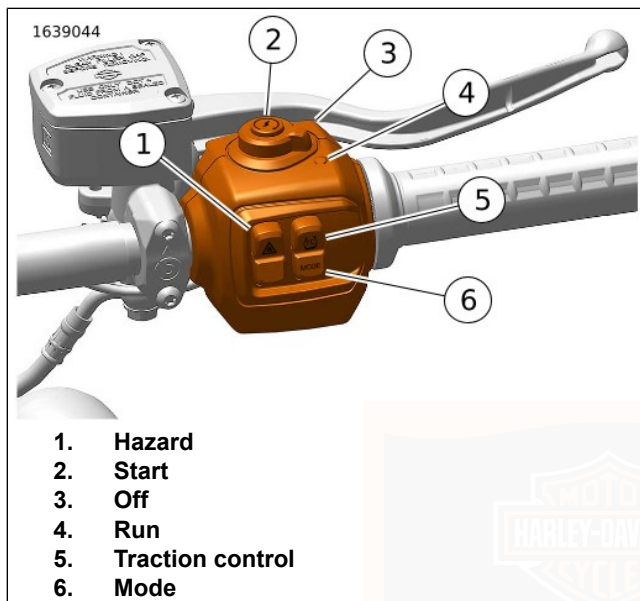

Figure 43. RHCM (Without Infotainment)
See Figure 43. The hazard switch (1) is used to leave a stranded motorcycle in the 4-way flashing mode. With the flashers, the motorcycle can be left with the ignition off until assistance is found.
See Figure 43. Press the mode button (6) to change the ride mode.
See Figure 43. Position the engine OFF/RUN switch to the Off position (3) to shut off the engine.
See Figure 43. Push the engine OFF/RUN switch to run (4) to enable engine start and run. The engine OFF/RUN switch must be in the run position to start or operate the engine.
See Figure 43. Position the engine OFF/RUN switch to the Run position (4) to allow the engine to start.
1. Switch the OFF/RUN switch to the run position (4). Shift the transmission to neutral. The neutral (green) indicator illuminates. See OPERATION > STARTING THE ENGINE (Page 116).
2. Press the start switch (2) to operate the starter motor.
See Figure 43. The traction control button (5) activates and deactivates the traction control system.